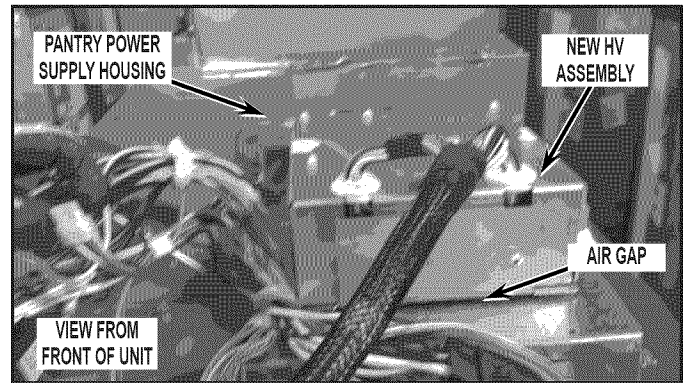

FIGURE 10
12. Place the new HV assembly next to the pantry power supply housing. The new HV assembly will NOT be screwed down. See *Figure 10*.